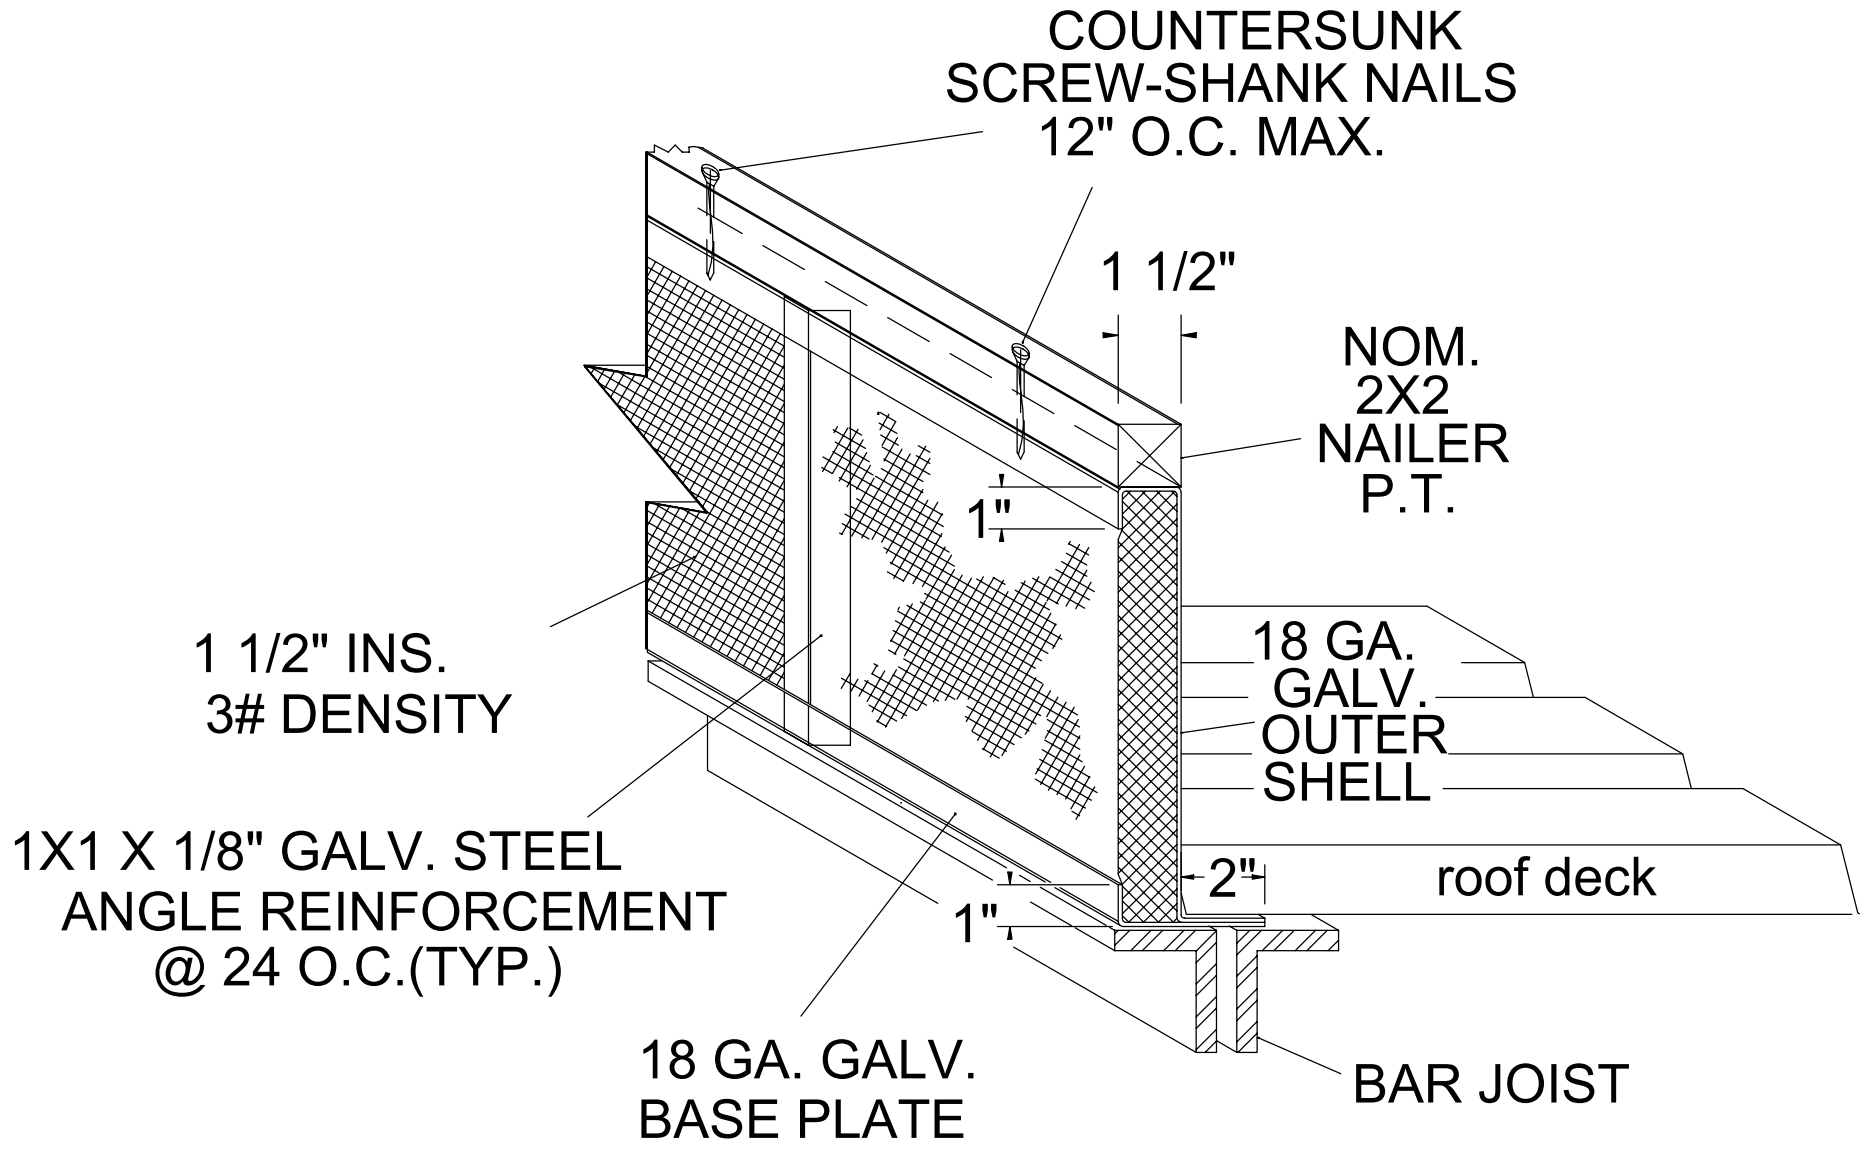

FIGURE 8
5. Model RPC-3 typical construction details. (fig. 8)